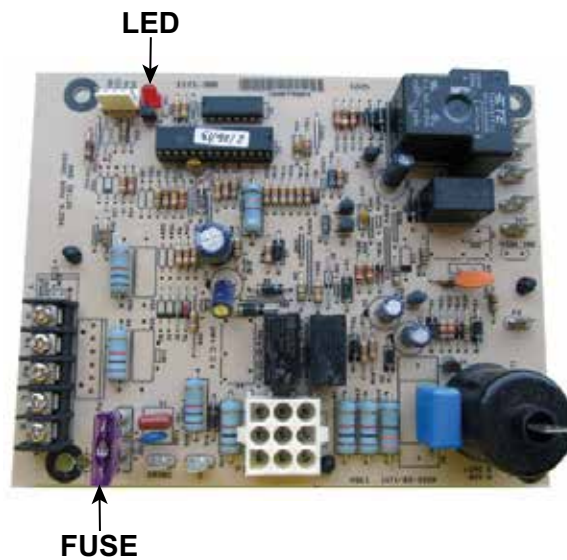

Figure 29. DSI Control Module
The LED (see Figure 29) on the DSI control module (PN 272626) may be used to troubleshoot the unit. Refer to Table 28 for the DSI control module flash codes and their indications.
- If troubleshooting indicates that repair of the DSI control board is required, note that its only replaceable part is the fuse (see Figure 29), which is a type ATC or ATO 3-amp fuse, color code violet, PN 201685.